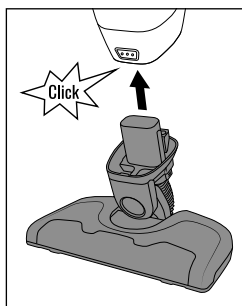

Fig. 2
- ◆ Insert the motor unit **8** into the floor nozzle **14** until you hear it click into place (see fig. 2).